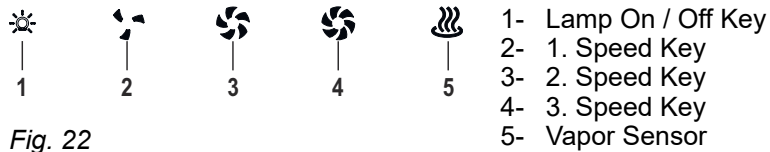

Fig. 22
Press the lamp button (Fig. 22) to switch the lamp on and off.
- Press the (☁) button (Fig. 22) to switch off the vapor sensor.